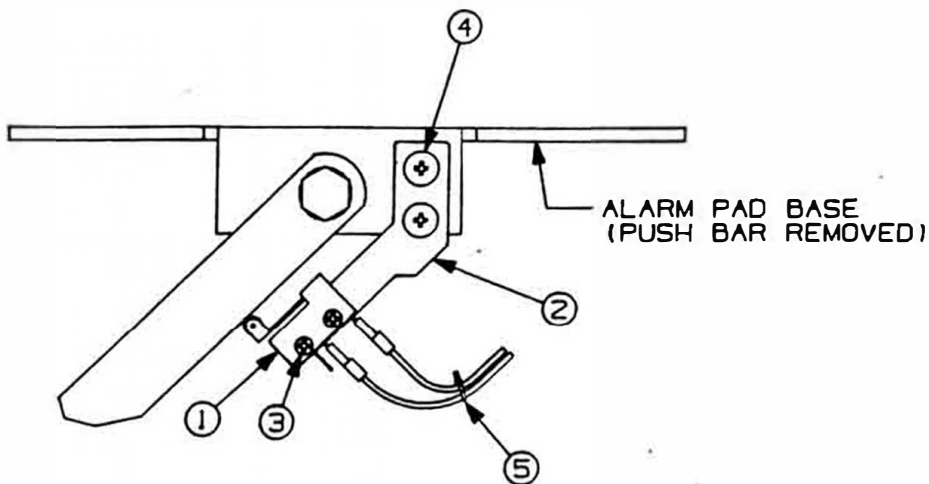
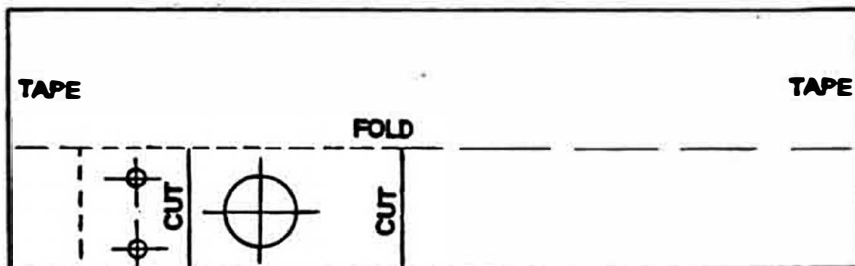

Figure 1: Alarm Accessory Kit Assembly (units manufactured before 4/21/1997)
Figure 3: Drill Template (for alarmed units manufactured before 4/21/97)
Each kit contains the items listed in the table at right. Refer to Figure 1 or 2 to locate each item.
3. On non-alarmed units, attach the switch (Item 1) to the switch bracket (Item 2) using the two #2-56 x .38" thread-forming screws (Item 3) as shown in Figure 1.
4. To attach the remote switch to an alarmed unit (A101-002 or A102-002), drill two (2) mounting holes in the alarm pad base (Step 5). For non-alarmed units (A101-001 and A102-001), skip to Step 7.
5. Cut out and fold the drill template (see Figure 3) to locate the positions for two mounting holes in the pad base. Tape the template to the opposite flange which the existing alarm switch and bracket are mounted to. With the template in place, mark the holes using a center punch.
6. Remove the template and drill two (2) 0.125 diameter holes through the flange.
7. Attach the switch/bracket assembly to the alarm pad base using the two #6-32 x .25" thread-forming screws (Item 4), observing the position of the switch in Figure 1. The roller on the switch arm should contact the link arm and depress the switch sufficiently to close it when the push bar is in the full OUT position.
12. Connect the external wiring to **C** and **NO** terminals on the switch as shown in Figure 1 or 2. This creates an open contact when the push bar is depressed. Tie wires together with the cable tie (Item 5) approximately two inches (2") from the switch. Then route wiring along the link arm and outer tube assembly toward the hinged side of the door and to the auxiliary device.